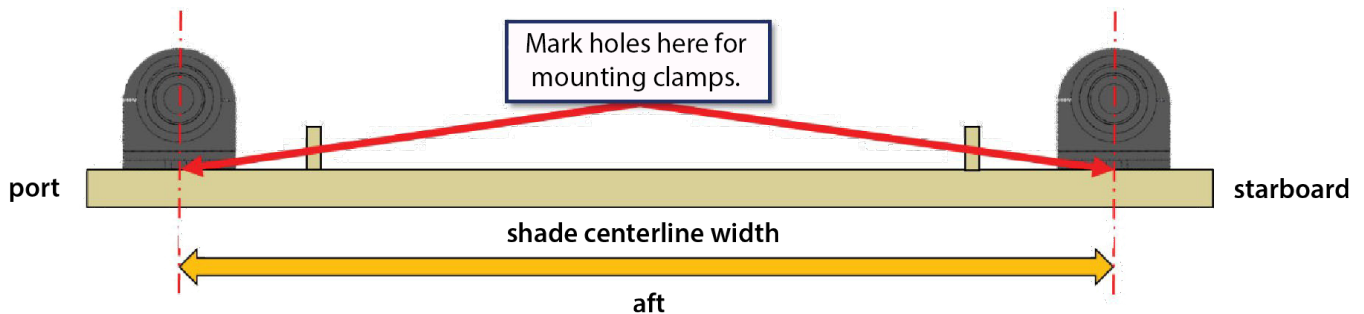

Fig.8
5. If the hardtop is flat\* (Fig.8), the mounting hole locations are the same as the shade's center width for either a topside or underside mount (Fig.8).
**A.** For flat surface mount\*, drill straight down (Fig.8).